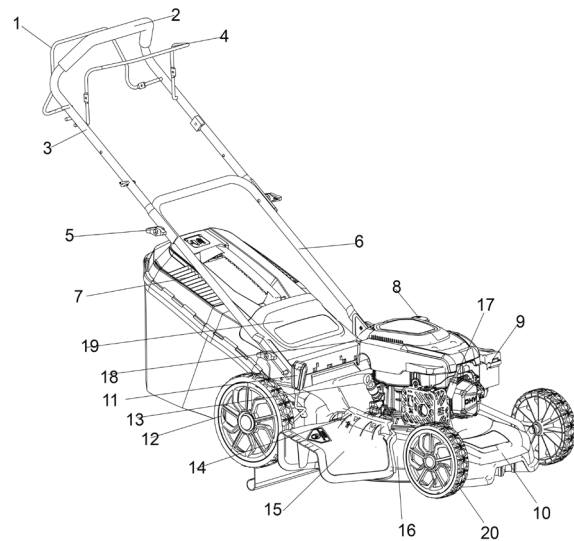

Fig.1
- Locate the two lower handle arms onto the peg protruding from the mounting brackets (fig.1).